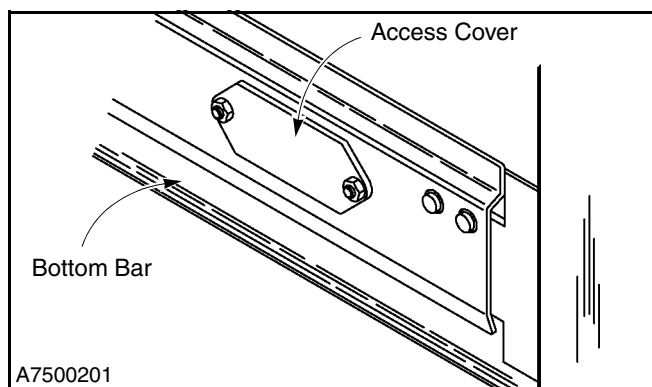

Figure 25
1. The reversing edge switch is located inside the bottom bar assembly. To inspect or adjust the switch, remove the access cover from the face of the bottom bar assembly. (See Figure 25.)